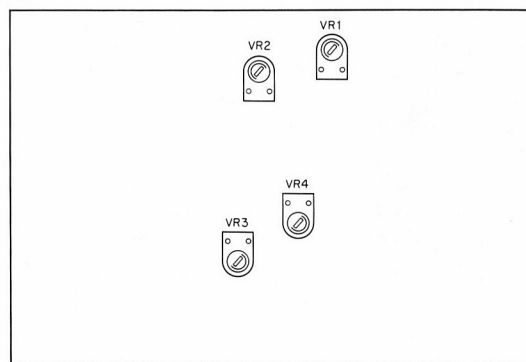

Fig. 28 AF • AVR unit
- 3) Turn OFF RIT switch and adjust VR2 in AF AVR unit (X49-1080-00) until the beat frequency is kept unchanged when RIT switch is turned ON and OFF (refer to **Fig. 28**).